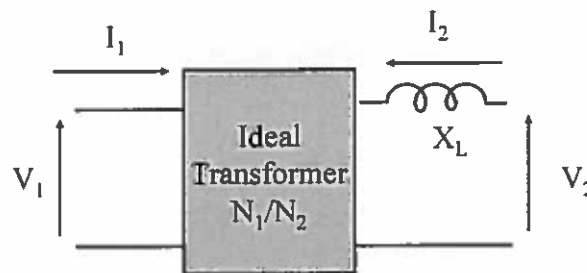
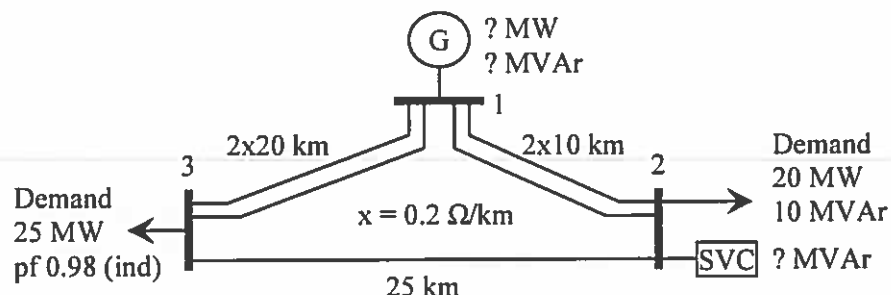

Figure 3
Figure 5
- b) Consider the transformer model in Figure 3. below:
3. A 132 kV network, supplied from a remote generator connected to busbar 1 (Figure 5 below) supplies an industrial site at busbar 3 and a town supplied from busbar 2. Network voltage is controlled by the generator (G) and Static-Var-Compensator (SVC) and is kept at 1 p.u. at busbars 1 and busbar 2. Lengths of the circuits are shown in Figure 3. Individual circuits all have the same unit reactance of $x = 0.2 \Omega/\text{km}$, while active power losses can be ignored.